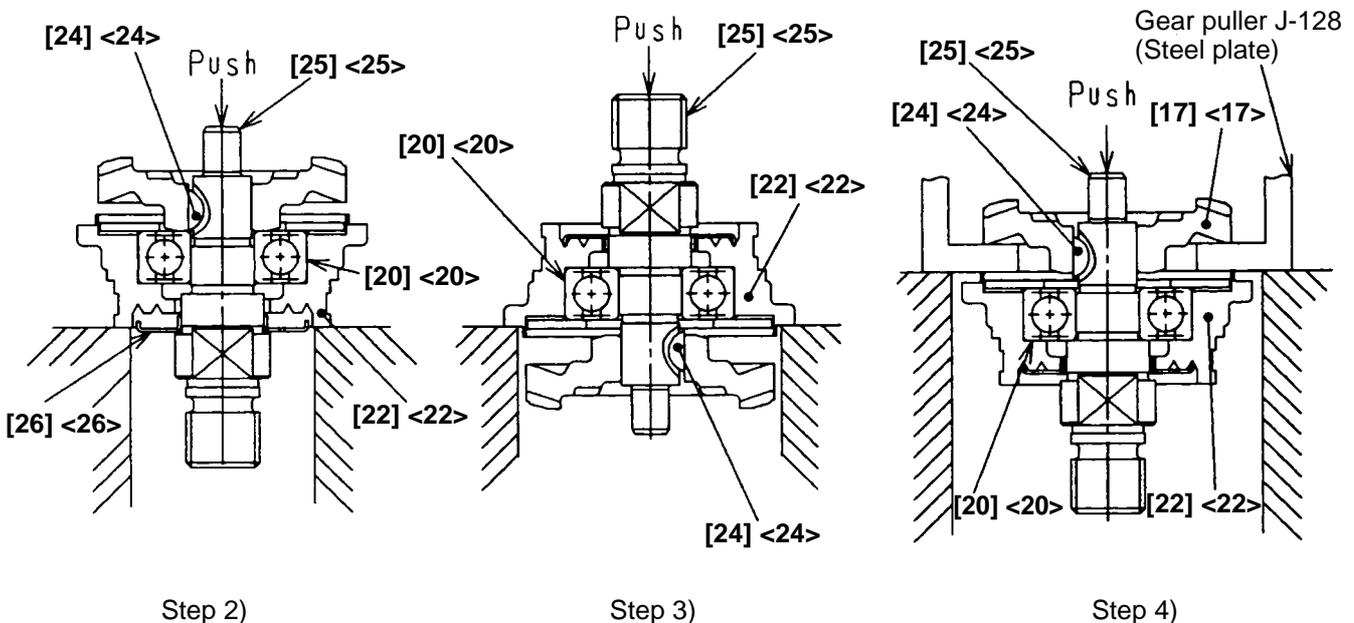

Fig. 6
(6) Disassembly of the gear (Fig. 6)